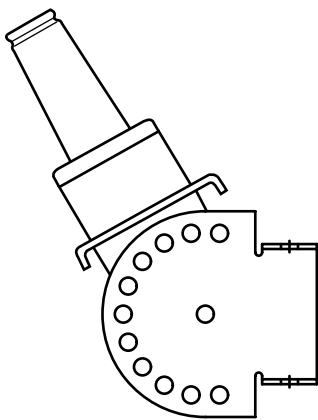

Figure 5. Frontplate angle adjustment.
- Adjust frontplate to desired angle. Tighten all bolts securely (Figure 5).